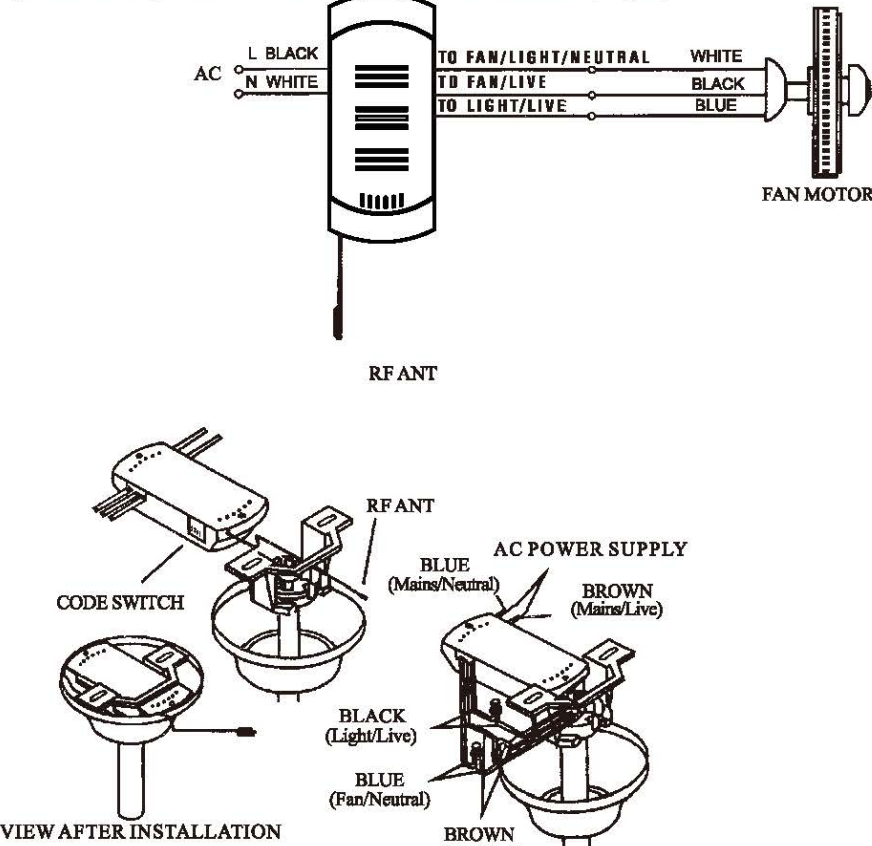
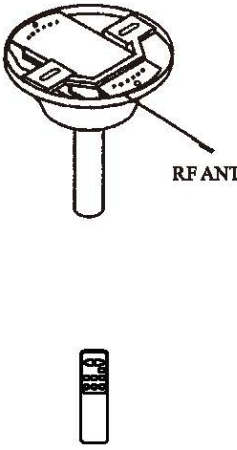

Fig. 1.1
Fig. 2
- 3.Make the wiring connection as shown in Fig. 1.1 and 1.2. RF. sensor must be stuck outside canopy. Its position depends on RF. receiving condition. (Fig. 2)